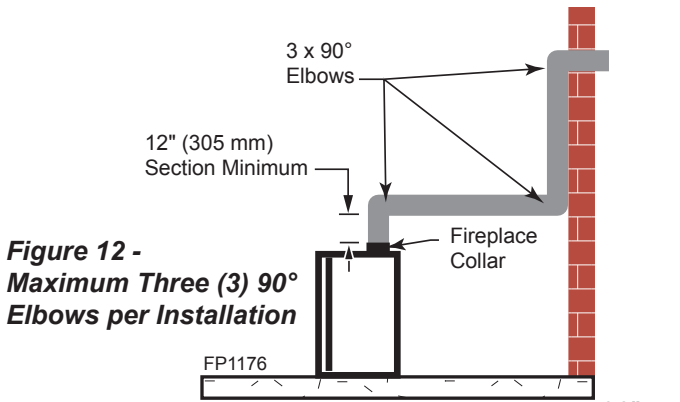
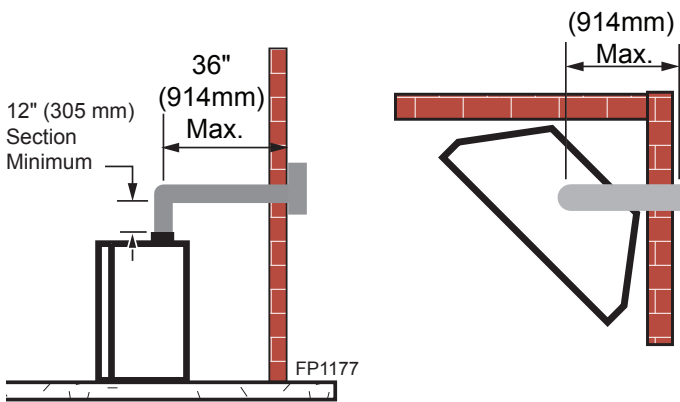

Figure 12 - Maximum Three (3) 90° Elbows per Installation
Figure 13 - Maximum Horizontal Run with 12 Minimum Rise
- The maximum number of 90° elbows per side wall installation is three (3). *Figure 12*
- If the min. 12" rise with a 90° elbow is fitted directly on top of the first 12" section, the maximum horizontal vent run before the termination or a vertical rise is 36" (914 mm). *Figure 13*
- If a 90° elbow is used in the horizontal vent run (level height maintained) the horizontal vent length is reduced by 36" (914 mm). *Figures 13 & 14*. This does not apply if the 90° elbows are used to increase or redirect a vertical rise. *Figure 12*